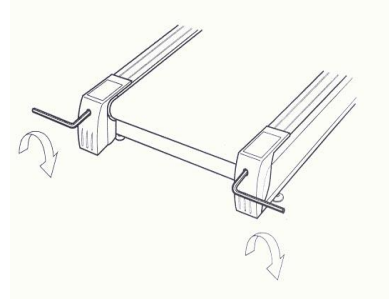

Figure 3
- **Running belt is slipping during use (Figure 3)**